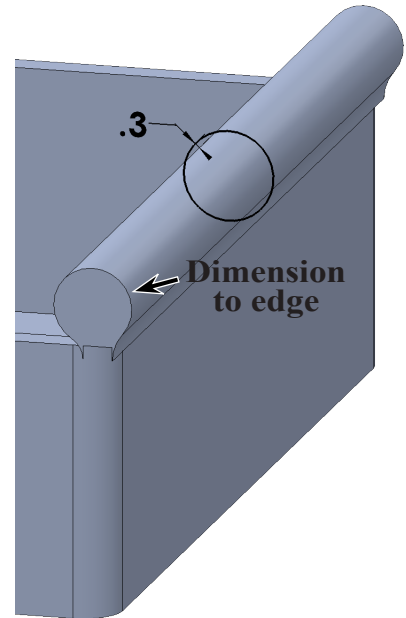

Fig. 15
Step 5. Add **offset dimension .3 from circular edge**, **Fig. 15**.